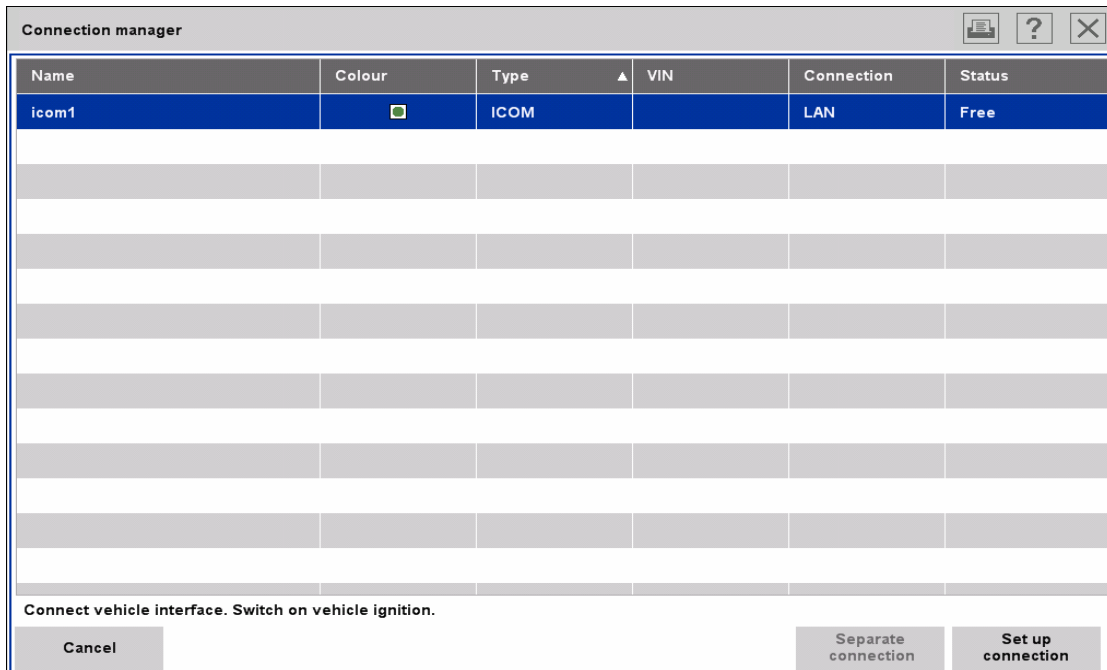
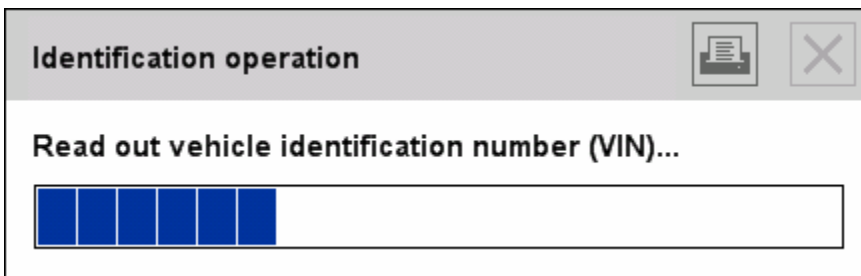

Fig. 3.62 "Connection manager" tab
Fig. 3.63 "Identification operation" progress bar
- ◇ Click the "Set up connection" button (Fig. 3.62). Wait until the connection is established (Fig. 3.63).